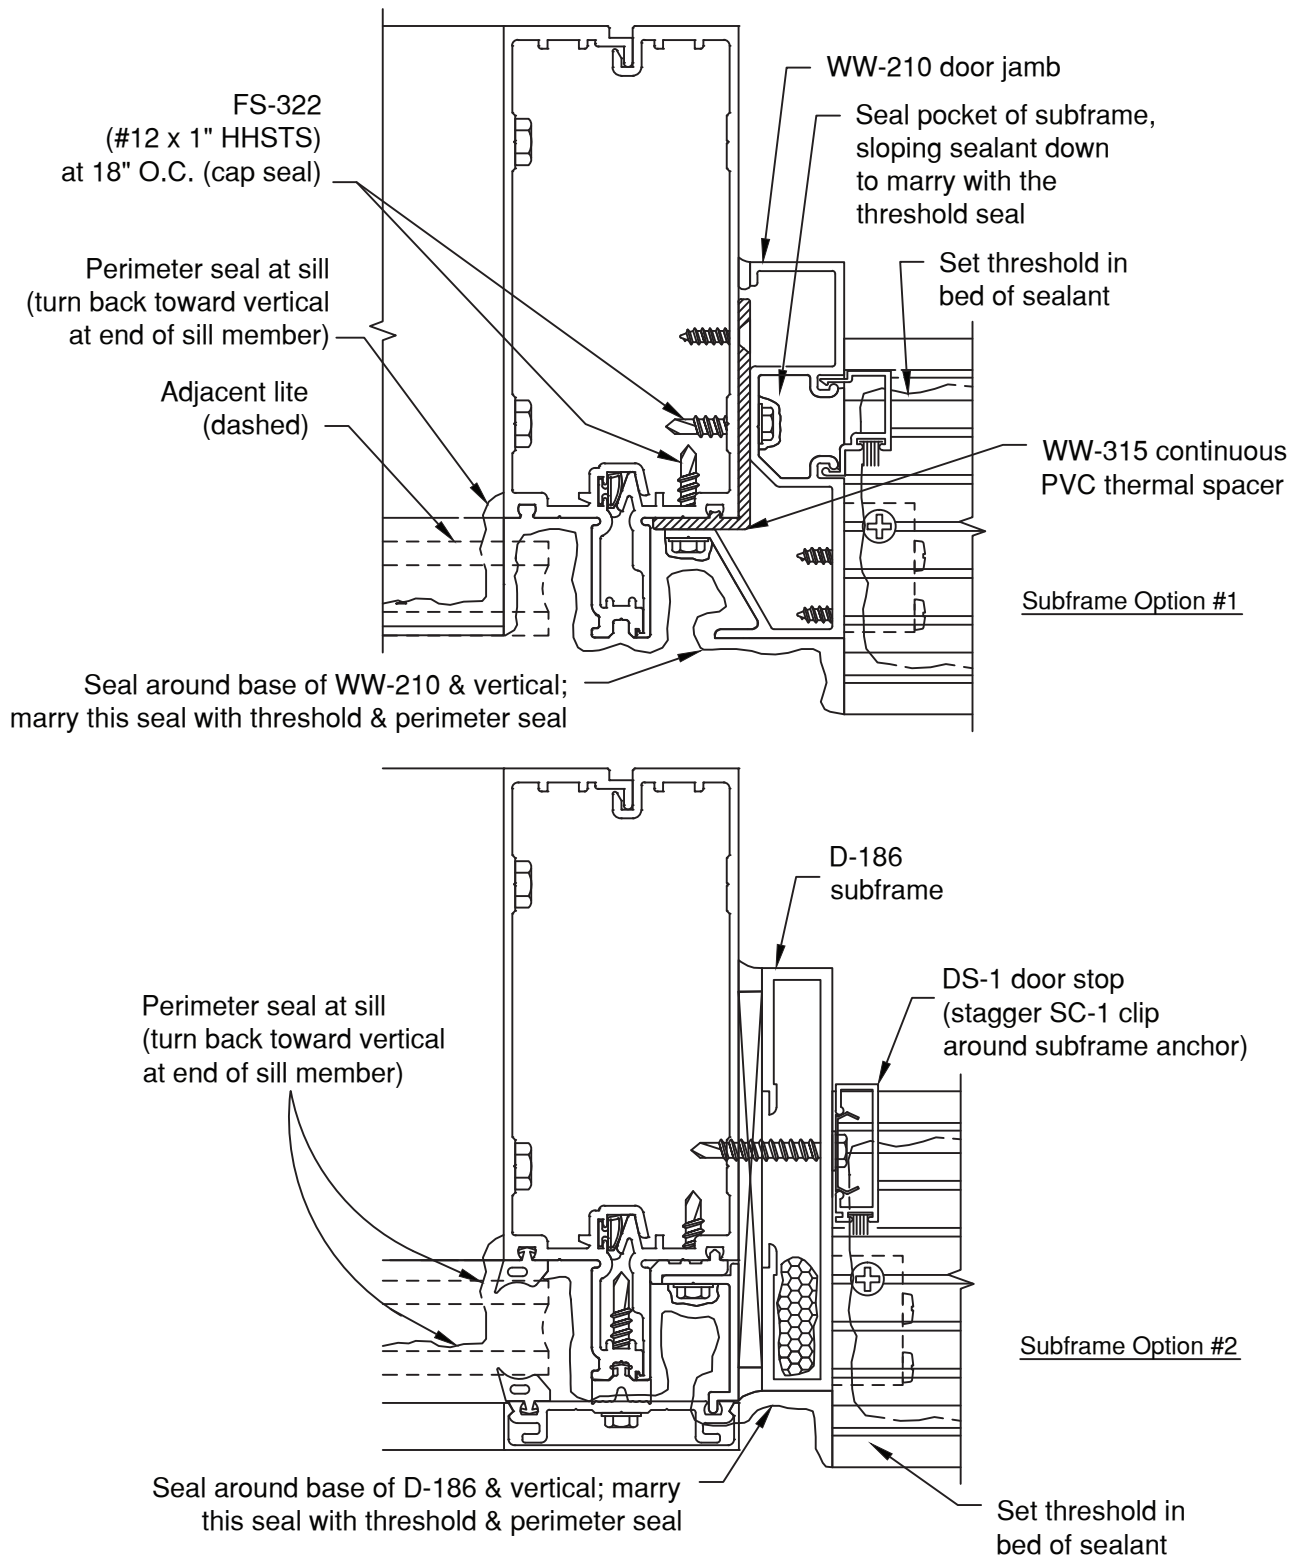

FIGURE 39
C.2.3 Bed subframes in sealant. Anchor to curtain wall framing members with FS-322 #12 x 1" Hex Head screw at 18" O.C. Cap seal all fasteners and seal joint between jamb and header subframes. Seal tops of the jamb subframes. **SEE FIGURE 39.**
C.2.4 Bed threshold in sealant, attaching to TH-44 clips with FS-42 #12 x 1/2" Phillips Flat Head screws. Marry threshold seal with subframe and main system seal. **SEE FIGURE 39, page 16.**